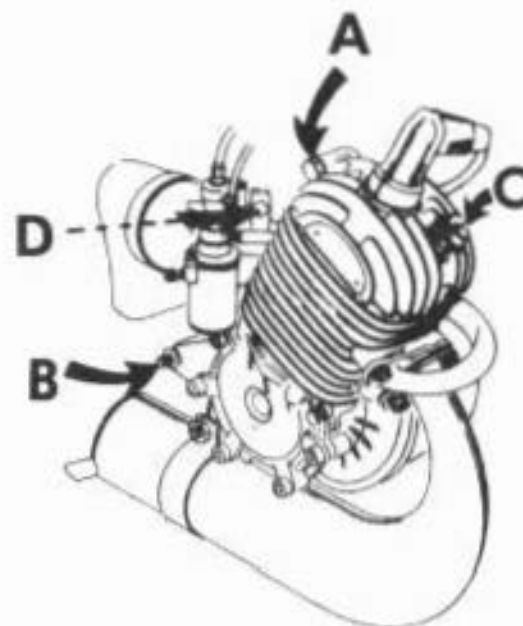

Fig. 6-1
- 2) Loosen upper engine mounting bolt ("A" Fig. 6-1) but do not remove.
- 3) Loosen and remove lower engine mounting bolt ("B" Fig. 6-1)
- 5) Release decompressor cable by screwing in cable adjuster on R.H. lever. Now press down on decompressor ("C" Fig. 6-1) release outer casing from top of decompressor and inner wire nipple from bracket at base of decompressor.
- 7) Remove carburettor by slackening screw ("D" Fig. 6-1) gently rotate carburettor left and right to remove front intake pipe. The carburettor can now hang freely.
- 8) The motor can now be removed by holding it firmly while removing the upper engine bolt "A" Fig. 6-1)